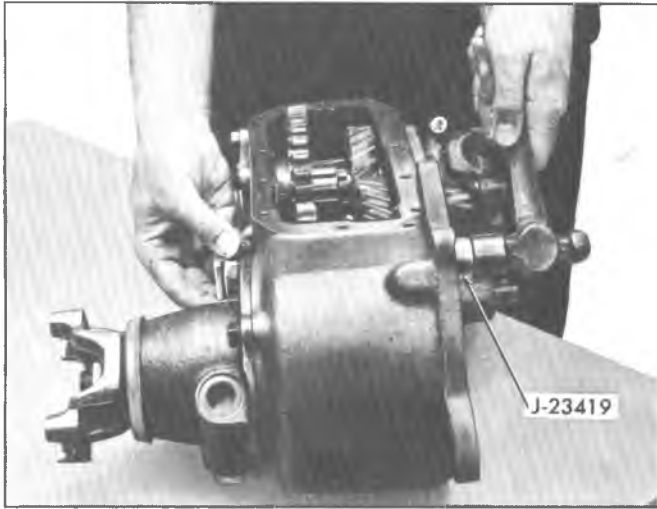

Fig. 2D-Removing Intermediate Gear Shaft
4. Using dummy shaft J-23419, drive intermediate shaft out of rear of case as shown in Figure 2D.